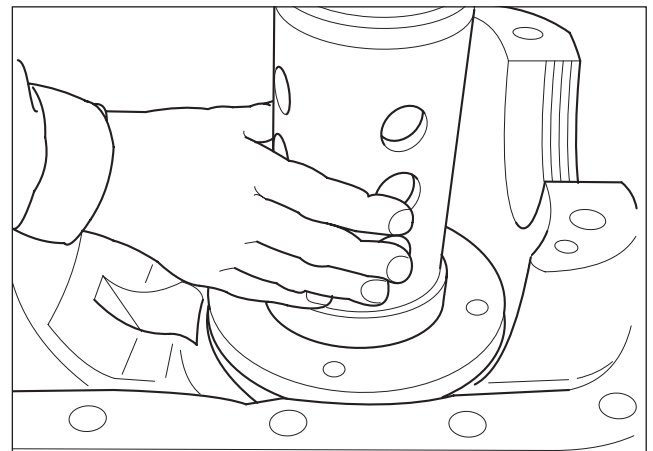

Fig. 2.47
- Press bearing cup into carrier until fully seated in position. (Fig.2.47)